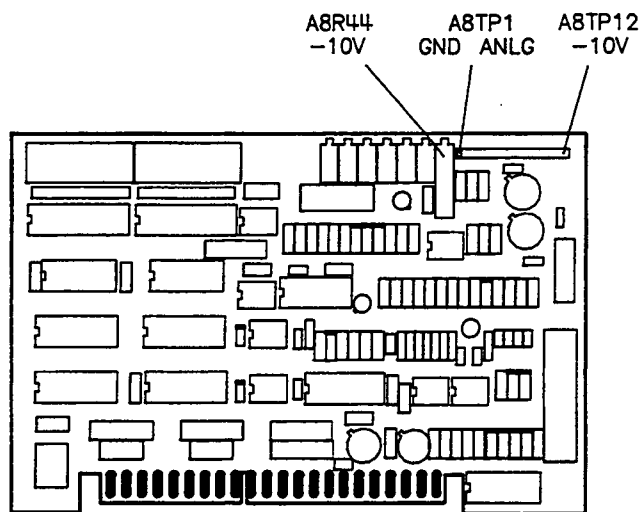

Figure 5-1. -10V Reference Adjustment Location
2. Adjust A8R44 -10V for a DVM reading of  $-10 \pm 0.001$  VDC. Refer to Figure 5-1 for -10 volt reference adjustment location.